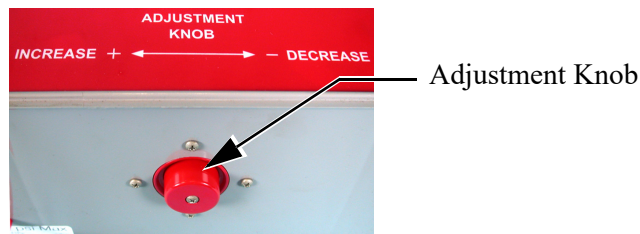

Figure 11. Adjustment Knob
- **BEFORE** connecting the compressed air supply to the Control, turn the red adjustment knob clockwise (Decrease) until the knob stops turning (See Figure 11.)
- Using the PDS Control Adjustment Knob (See Figure 11. on page 12), bring the line to 14" water column as measured at regulator stand tube.